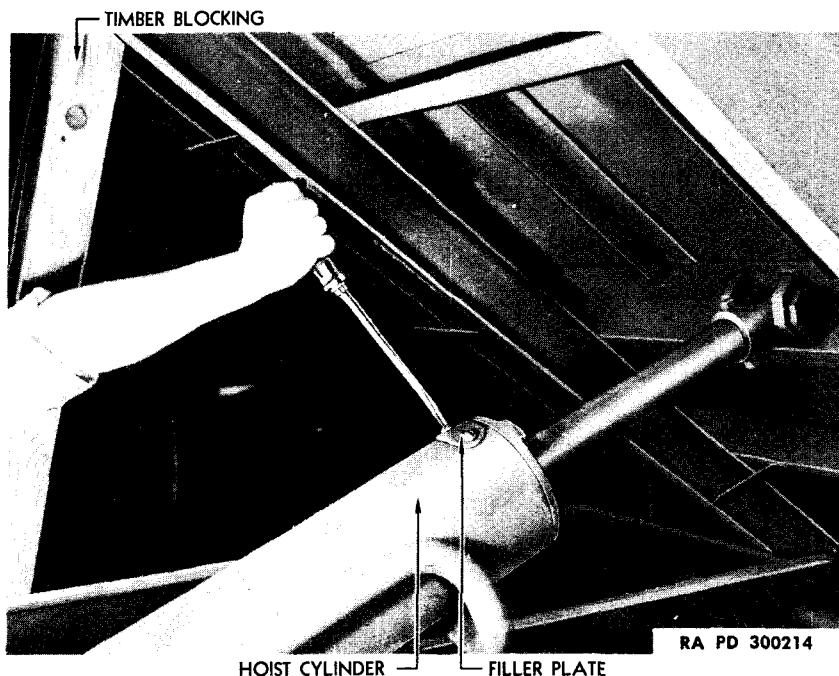

Figure 128—Timber Blocking
a. Before attempting to make any inspection or adjustment to the body or operating mechanism while body is raised, make sure the body is adequately supported by suitable blocking (fig. 128).
(1) Tighten bracket bolts holding subframe to vehicle frame, also body guide bracket bolts.
(1) With body in fully raised position and safety blocking under the body, remove the filler plate or plug (fig. 128). (Anthony cylinder is equipped with a plug).
(2) Fill cylinder with proper grade of oil and replace filler plate or plug loosely.
(3) Remove the safety blocking, then raise and lower the body six times. This will free the cylinder of air. **CAUTION:** *Do not speed the engine while raising or lowering the body, as this will cause air pockets to form in the oil.* Idling speed is proper for this operation.